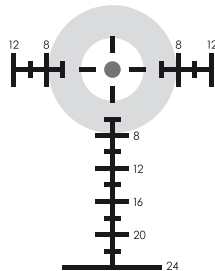

Fig. 4-2: 3-Gun target
The FORCE-MOA is a multi-function, glass-etched reticle designed to enable continuous momentum shooting from target to target, and thus excels in close-to-medium range engagements. When the riflescope is set at its lowest $1\times$ magnification, the reticle's illuminated center dot serves as a quick reference for centering on the target with both eyes open, similar to a red dot sight. At $6\times$, the reticle's lower hash marks provide holdover points for longer known ranges as determined through the calculations of your ballistic table or app. (Fig. 4-2, 4-3, 4-4).
* The BLACK FORCE100 Riflescope has the FORCE-MOA reticle placed in the riflescope's second focal plane, so all holdover corrections, ranging and other measurements using the indicated reticle subtensions should be done at $6\times$. (Fig. 4-2, 4-3, 4-4)